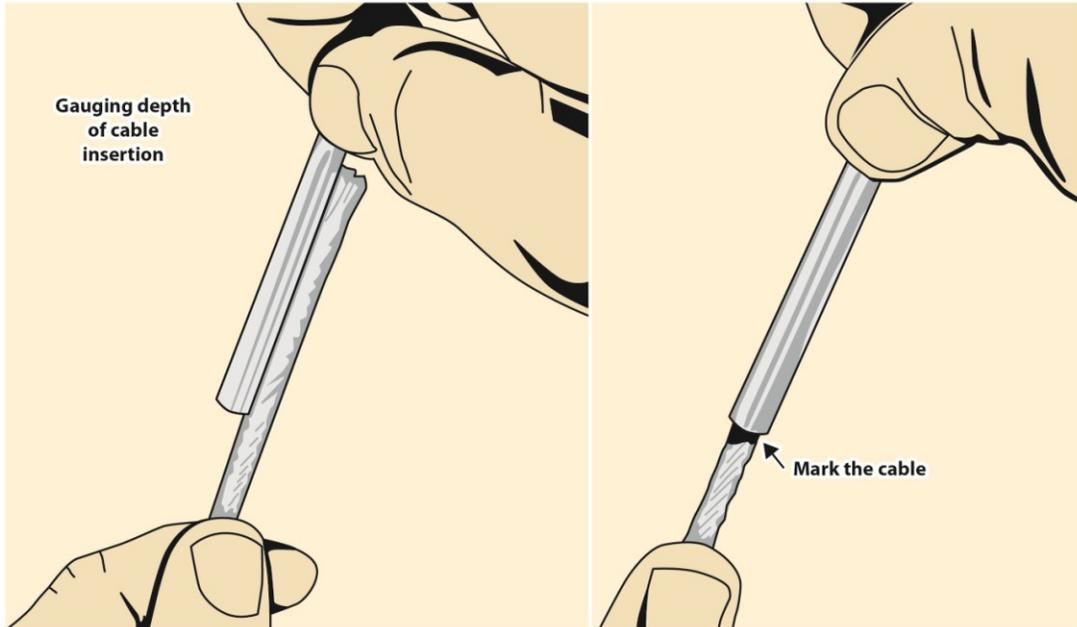

Fig 7
- Using a black marker, mark the cable to provide a visual reference that the cable remains fully seated down inside the fitting and does not slip out (Fig. 7).